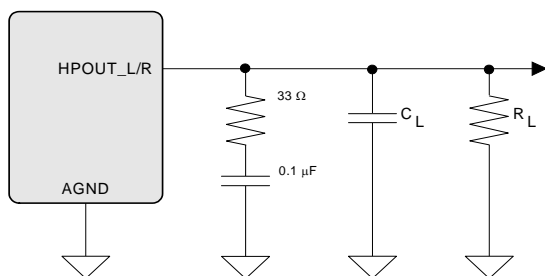
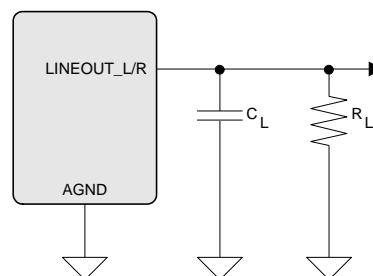

Figure 5. Output Test Load, Headphone Out
Figure 6. Output Test Load, Line Out
(Test conditions (unless otherwise specified): Input test signal is a full-scale 997 Hz sine wave; $V_D = 1.8\text{ V}$; $V_{L_HD} = V_{L_IF} = 3.3\text{ V}$; $T_A = -40$ to $+85^\circ\text{C}$; Measurement bandwidth is 10 Hz to 20 kHz; test load $R_L = 10\text{ k}\Omega$, $C_L = 10\text{ pF}$ for the line output and test load $R_L = 16\text{ }\Omega$, $C_L = 10\text{ pF}$ for the headphone output (see Figure 5); DAC Gain = 0 dB).
8. See Figure 5 and Figure 6. R_L and C_L reflect the recommended minimum resistance and maximum capacitance required for the internal op-amp's stability and signal integrity.